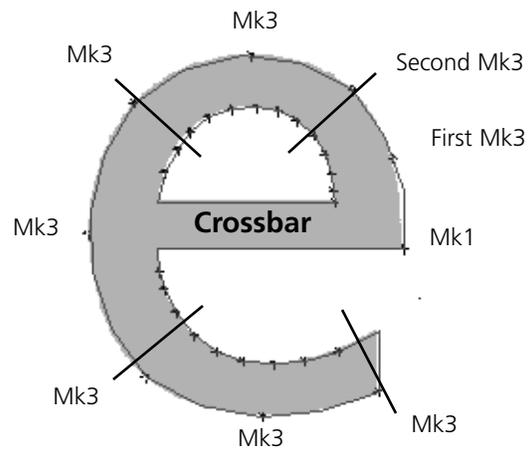

Figure 5-17
1. Click on the Mk3 push button in the Object Edit toolbar then enter a Mk3 in the middle of the first arc segment and another Mk3 at the location between the first and second arc segments (see Figure 5-17).